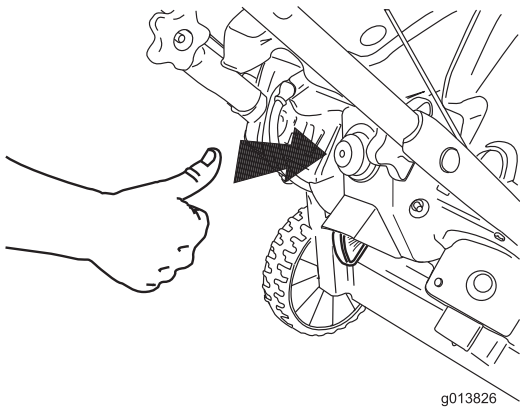

Figure 17
- 3. Firmly push in the primer with your thumb as indicated by the table below, holding the primer in for a second before releasing it each time (Figure 17).